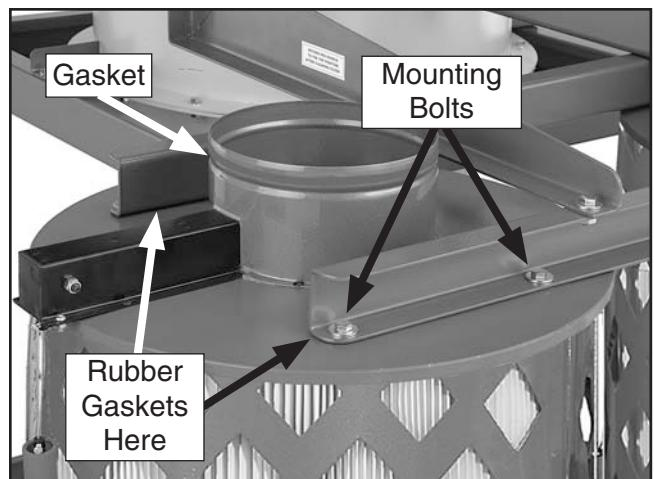

Figure 34. Canister filters mounted to the long support braces.
34. With assistance, position the rubber mounting gaskets between the filter canisters and the long brace supports, and secure the canisters with (8) $5/16$ "-18 x $3/4$ " hex bolts and (8) $5/16$ " fender washers (see **Figure 34**).